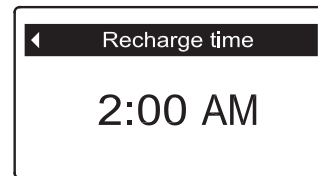

FIG. 117
4. Press the SELECT (○) button to display the Recharge time screen (See Figure 117).